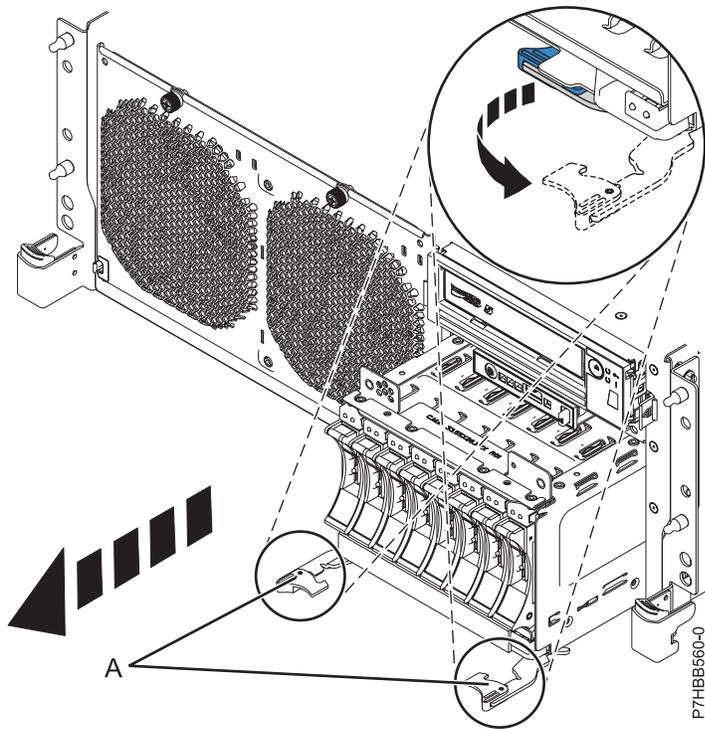
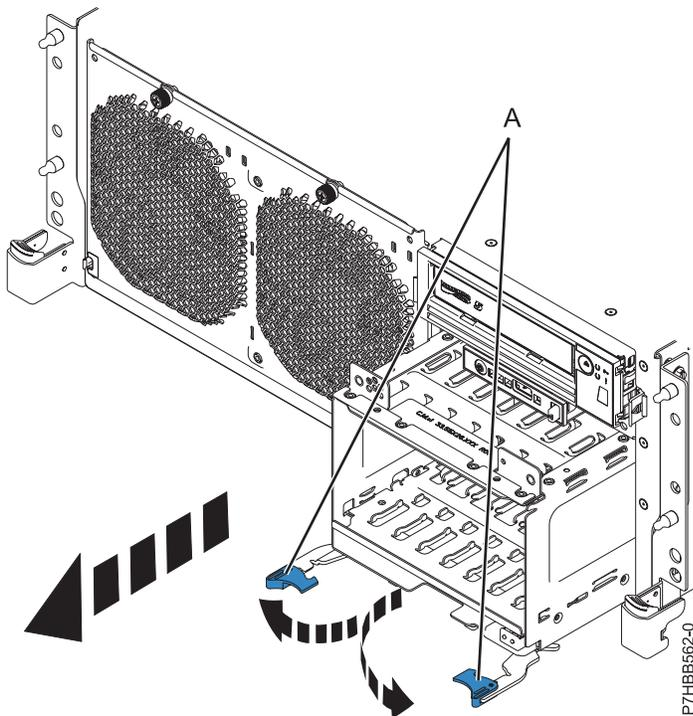

Figure 24. Removing the backplane that is populated with disk drives
Figure 25. Removing the backplane that is not populated with disk drives
14. Unlock the disk drive backplane by pulling the handles (A) open from the center of the backplane as shown in Figure 24 on page 43 and Figure 25 on page 43.